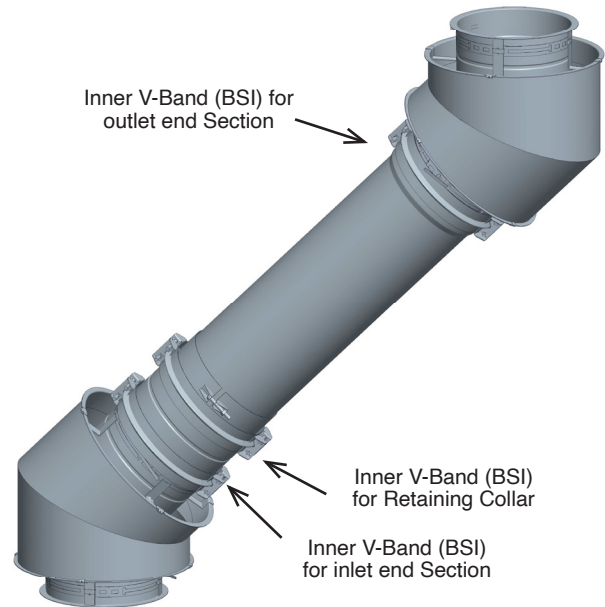

Figure 27 - Step 10-11 - Secure the Retaining Flanged Band
11. Then install the other V-band (BSI) over these flanges (like regular section joint assembly). See Figure 27.